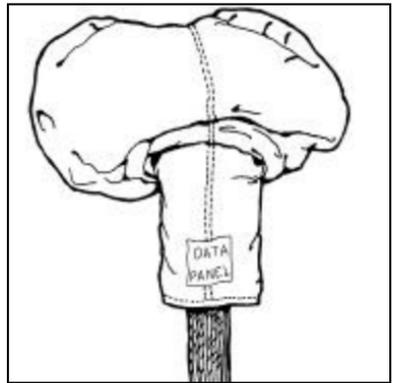

Figure 9.
Step 10.) Maintain a good grip on the canopy and gently swing the canopy outward and away. Place the canopy on the floor and apply tension to the lines. **NOTE:** If the canopy is placed on the floor with a twisting motion, it will not spread out evenly. Insure the nose is facing downward toward the floor. The center seam of the center cell (indicated by the data panel) should be in the center of the canopy bundle. (See Figure 9.)